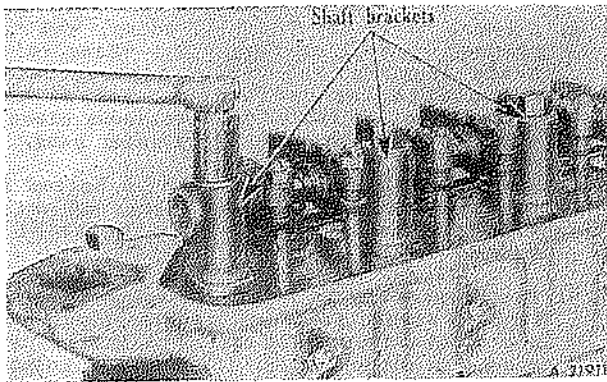

Fig. 4
2. Remove capscrews from shaft brackets (Fig. 4).